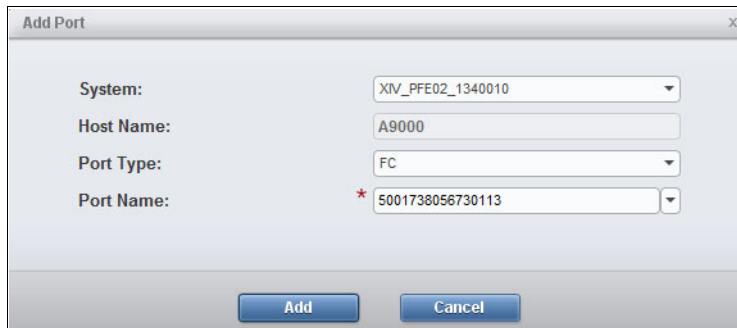

Figure 8-32 Adding the FC port connections for the data migration host
4. On the Add Port window, add the host ports with the WWPNs of the IBM FlashSystem A9000, as shown in Figure 8-32.
5. Repeat the steps in Figure 8-32 for all IBM FlashSystem A9000 ports listed in Table 8-2 on page 193. Figure 8-33 shows that the two ports of the table have been added to the host.